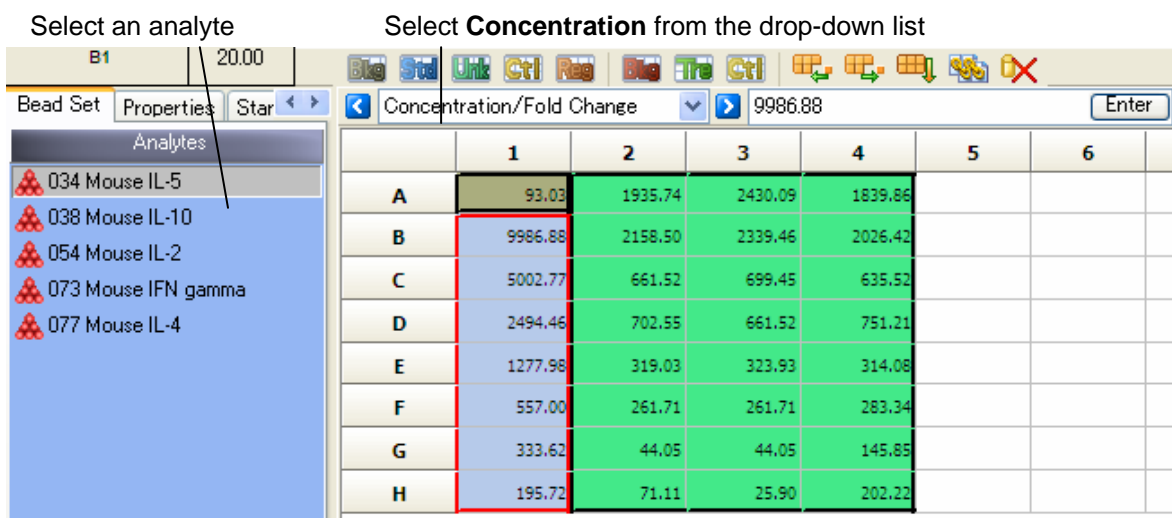

Figure 5.12 Well grid displays concentration data for the selected analyte
2. To view analyte concentrations in the Plate window, select **Concentration** from the data type drop-down list, and select an analyte in the Bead Set tab (Figure 5.12).
If $MFI < A$, the well grid displays the lowest standard MFI preceded by < (Figure 5.12). If $MFI > D$, the well grid displays the highest standard MFI preceded by >.